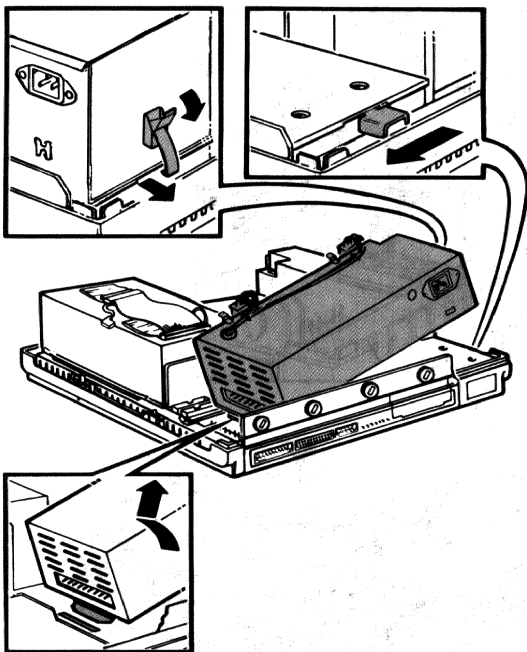

Figure 5-37 Removing the Power Supply
11. Slide or lift the latch on the side of the power supply, as shown in Figure 5-37.
12. Lift the end of the power supply up as shown in Figure 5-37 and remove it.